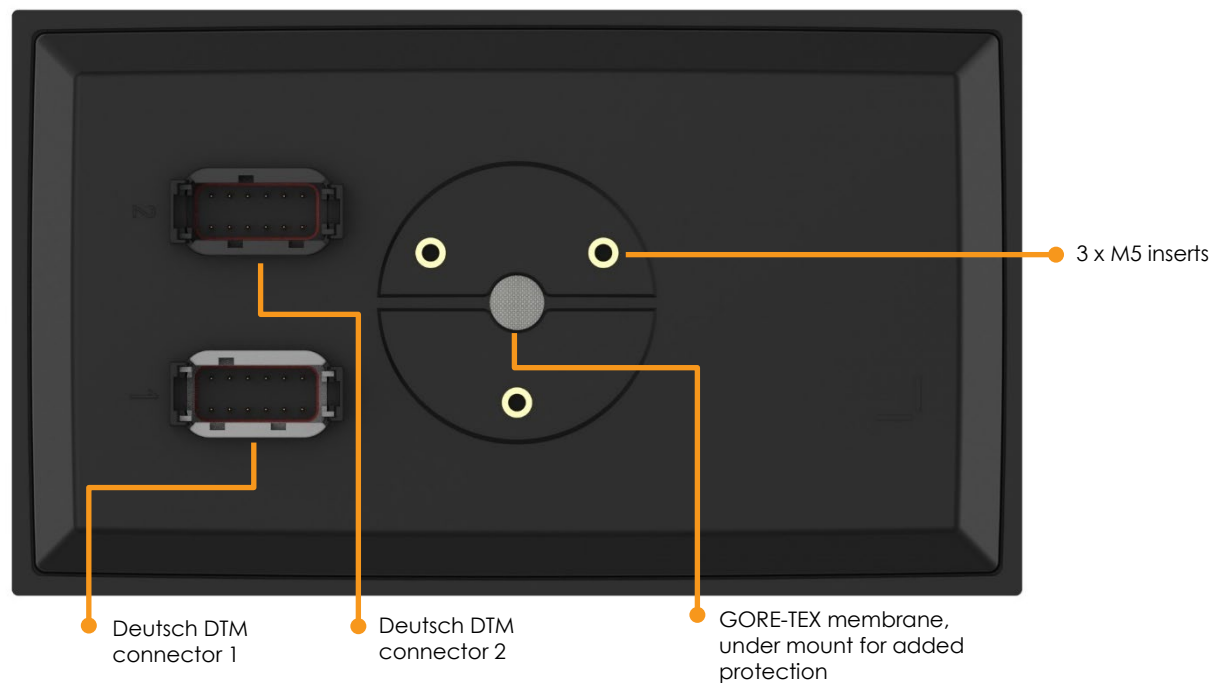

Figure 5: CCpilot V710 rear side view
- The device has a ventilation membrane, refer to Figure 5 for the location. For proper ventilation of the device, dirt and water must be prevented from accumulating and covering the membrane. Be cautious not to insert objects which may puncture the membrane. Doing so will violate the IP-classification and void the warranty of the device.